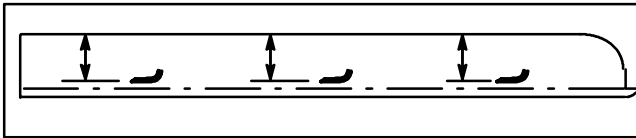

Figure 30
CHECKING FOR BENT BLADE (Fig. 30)
2. Rotate blade until the ends face forward and backward. Measure from inside of cutting unit to cutting edge at front of blade (Fig. 30), and remember this dimension.